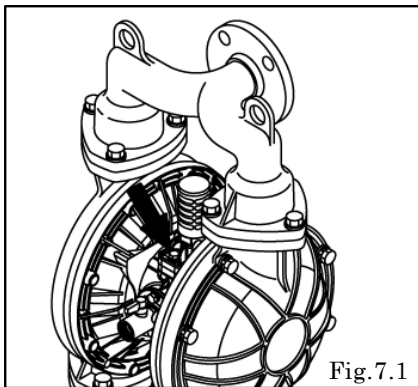

Fig. 7.1
- Remove the 2 retainer bolts from the valve body, and remove the valve body. [Fig. 7.1]